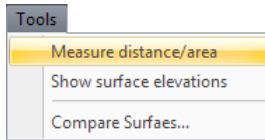

Figure 8-3. Compute the Distance/Area of the Grid Surface
1. With a 3D Project file open, click **Tools ▶ Measure distance/area** (Figure 8-3 on page 8-3). A check mark displays next to the menu option.